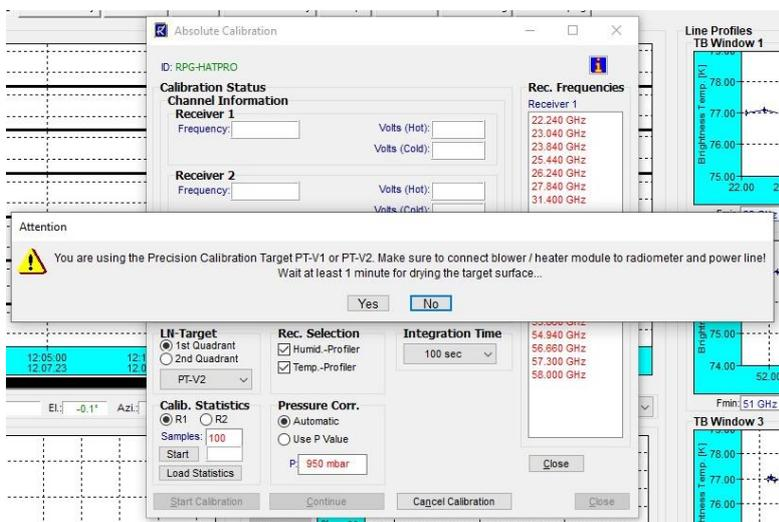

Figure 7: Pop-up window at absolute calibration to make sure that target surface is dry
6. Wait about 1 minute to make sure that target surface is dry, click “yes” if you are sure that surface is dry (see Figure 7)